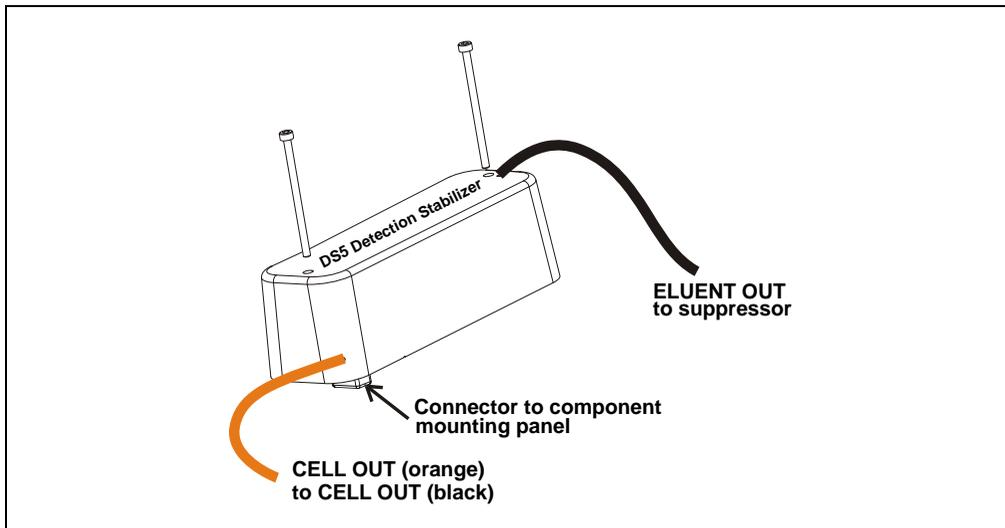

Figure 5-10. Conductivity Cell Assembly
4. Disconnect the black **ELUENT OUT** line from the **ELUENT OUT** port on the suppressor (see Figure 5-10).